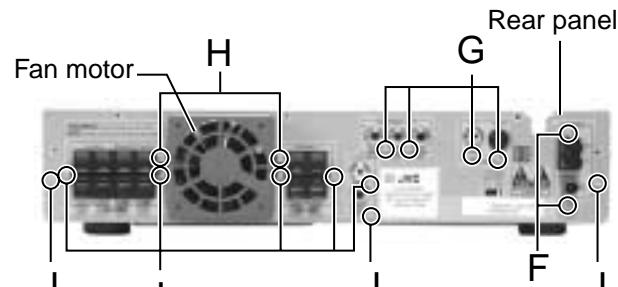

Fig.7
■ Removing the rear panel (See Fig.7 and 8)
■ Removing the tuner pack (See Fig.7 and 8)
■ Removing the jack board (See Fig.7 and 8)
■ Removing the fan motor (See Fig.7 and 8)
- Remove the five screws **K1** attaching the speaker terminals and jack to the rear panel (see fig.7).